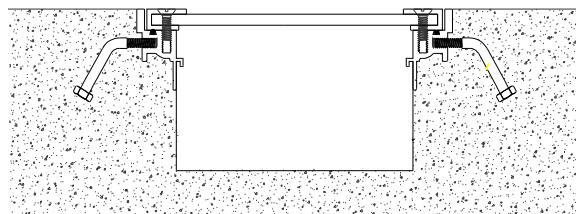

Figure 8
STEP 13. Using the fasteners (part no F1434S) provided by the factory, attach the cover plate to the frame (see Figure 8).